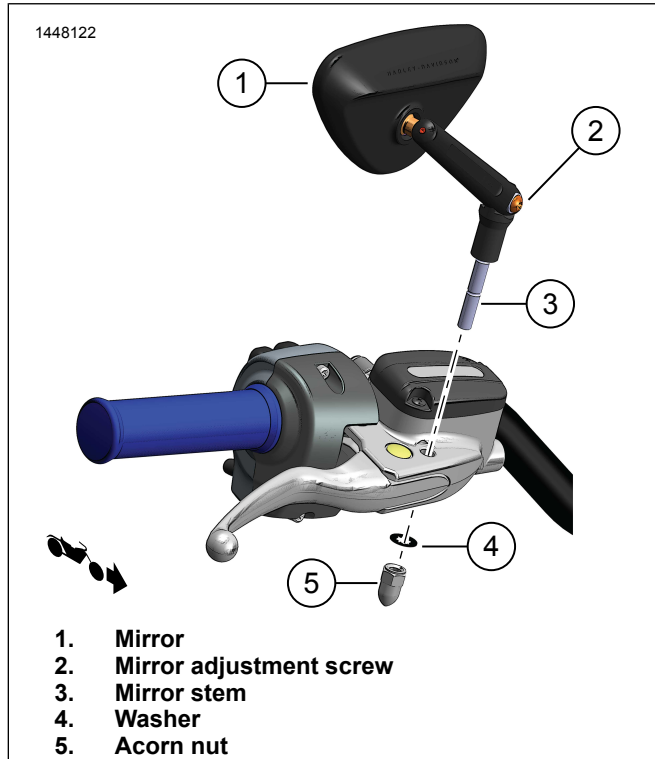

Figure 3. Mirror
1. See Figure 3. For vehicles with turn signals mounted to the underside of the hand lever housings (except 2004 and later XL models):
- a. Secure left side mirror with lockwasher (4) and acorn nut (5) from kit.
- b. Secure right side mirror with lockwasher (4) and acorn nut (5) from kit.
- b. Secure left and right side mirrors with lockwasher (4) and acorn nut (5) from kit.
1. See Figure 3. Adjust mirror arm angle for proper field of view.
2. Secure mirror adjustment screw (2). Tighten.